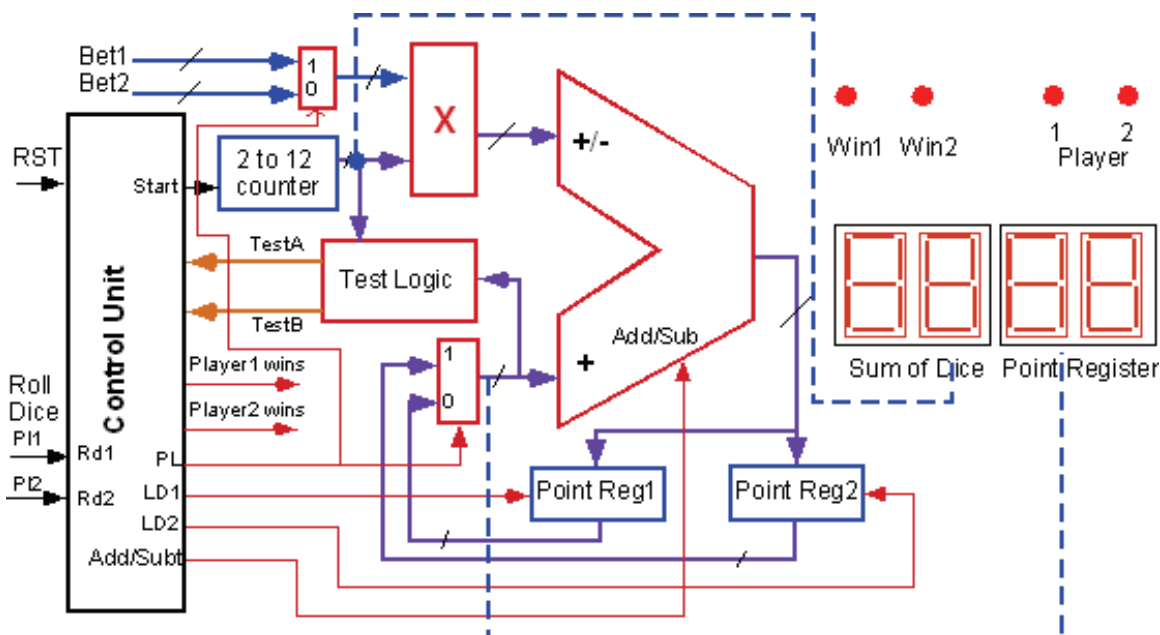

Figure 2: Datapath of the Electronic Dice Game
A possible block diagram of the datapath of the electronic dice game is shown in Fig. 2.
The data lines in the datapath are indicated in blue and fat lines in the block diagram of Figure 2. These are buses carrying the signals. Give the width of each bus.
- Identify the input and output signals (see Fig. 2)